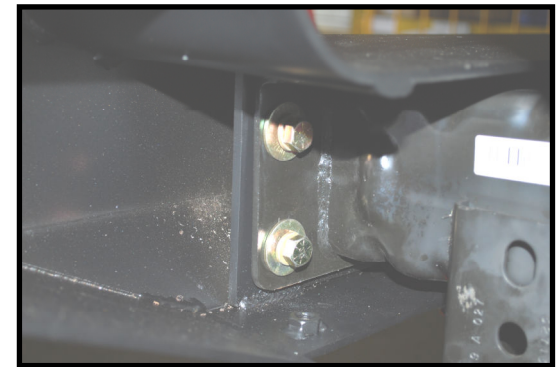

Figure 3
Step 6 – Install Hyline Front Bumper onto vehicle. Two people are recommended for this step. Use supplied 7/16-20 Grade 8 Bolts, Lock Washers and Flat Washers to assemble bumper to frame. (See Figure 3) Install the outside bolts first. This will align the other holes inside the frame rails so you don't have to struggle. After all eight bolts are hand threaded you may tighten all bolts to 78 ft/lb torque.